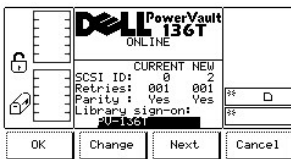

Figure 67. Setup > Library > SCSI > Library Sign-On Dialog
- 1 If the button beneath the **Next** softkey is pressed, the next field in the list is made the active field. If the next field is the Library sign-on field, see Figure 67.